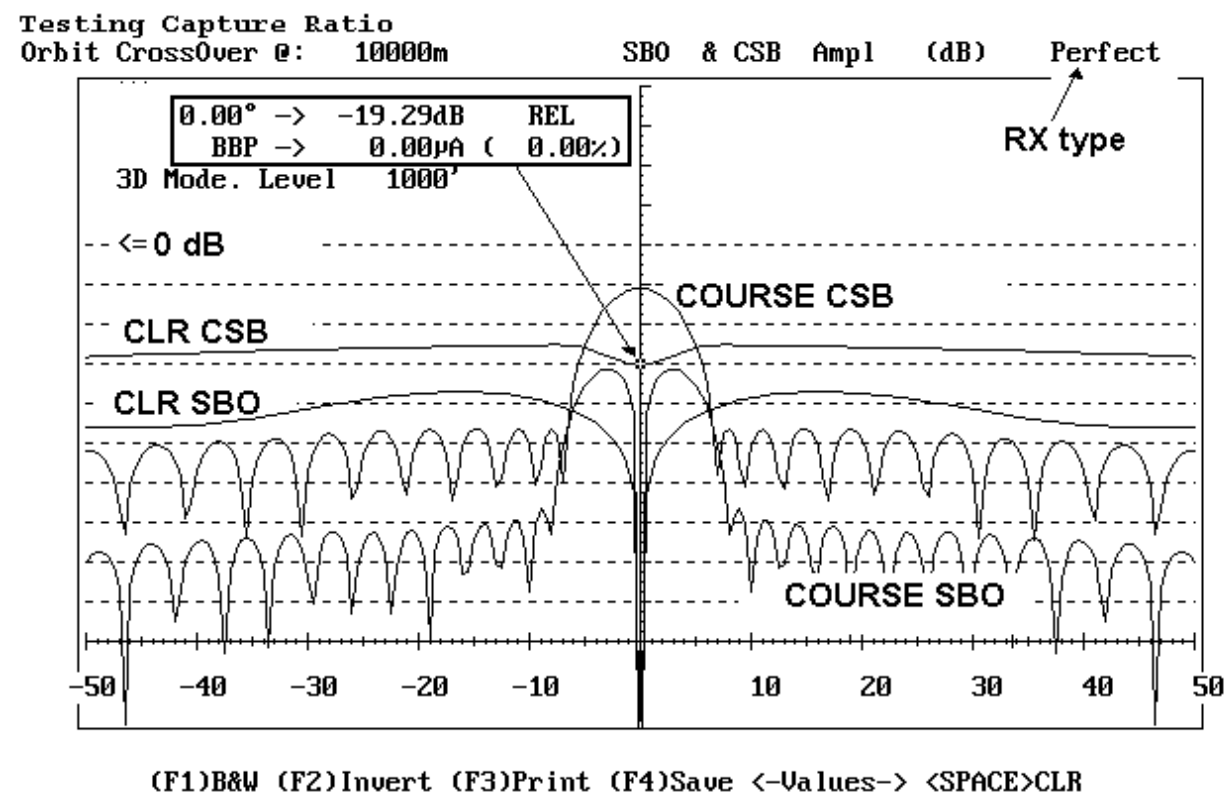

Fig. ORB 706 Using the cursor to measure the computed Capture Ratio
3. Use the <Up/Down> keys to move the cursor to the CLR CSB curve. The computed value (19.29dB) can be read in the field shown in the figure ORB 706.